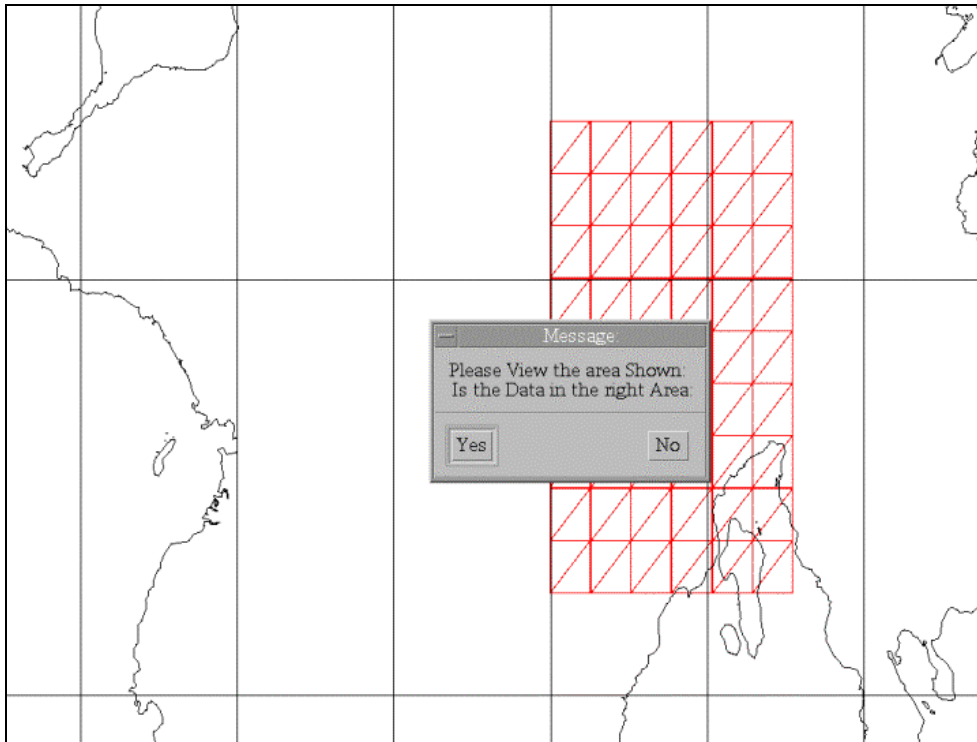
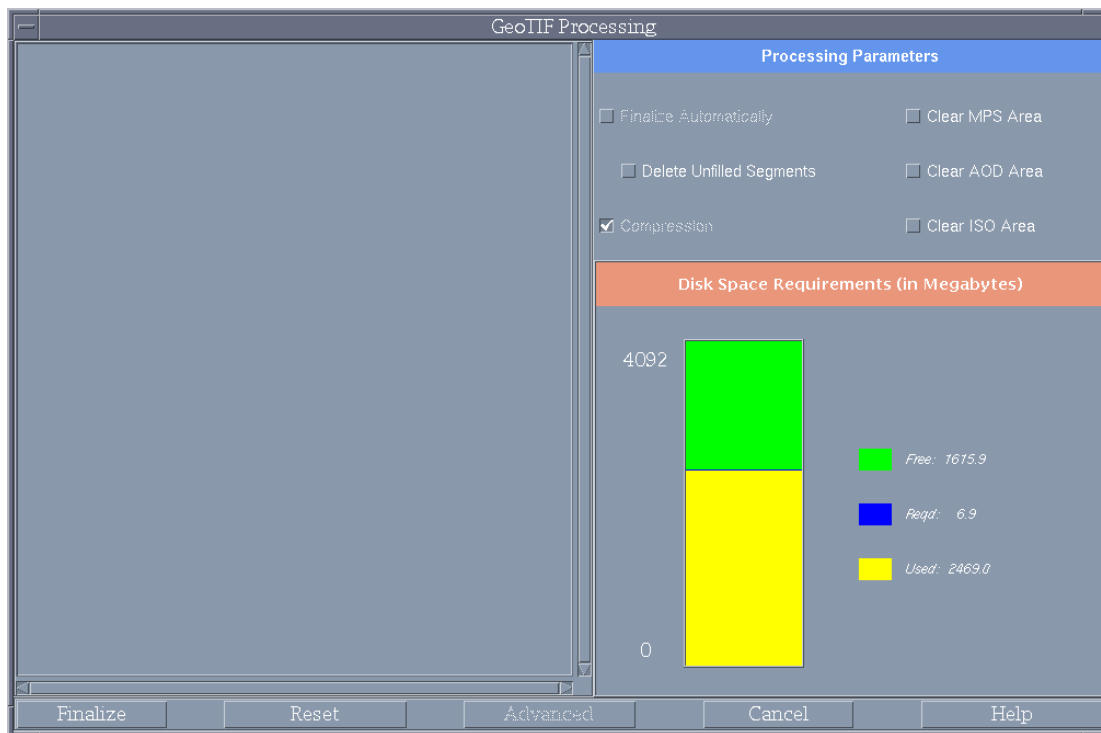

Fig. 43 – Area of coverage verification dialog
Fig. 44 – GeoTIF Processing Window with Finalize button
To accept the settings you have chosen, click *Accept* and processing will continue. MMC will display a template representation of the data zoomed into the area of coverage, with an overlay of a latitude and longitude reference grid. MMC will also display a message asking if the coverage is in the right area (Fig. 43). That is, is it in the right location and of the right size and shape? The user may have to move this message to the side if it obscures the template. If the template does not look right, click *No* to the message and determine the cause of the discrepancy. If the data look correct, click *Yes* and a *Processing* meter appears.
At this point, if you selected to finalize the data automatically, MMC will return to the main **MMC Window**. If you unchecked the finalize option, you will now see another dialog that will ask if you wish to finalize now or continue processing data. Click Finalize [scale] to finalize the data. The [scale] shown depends on what data you just processed. MMC will again display a template representation of the data zoomed into the area of coverage, with an overlay of a latitude and longitude reference grid. The dialog “Is the data in the right area?” appears (Fig. 43). If the data look correct, click Yes to continue.
The **GeoTIF Processing Window** again appears; however, the options are slightly different (Fig. 44). The previous Accept button now reads Finalize and the advanced options are disabled. To finalize the data, click the Finalize button at the bottom left corner of the window. Wait for the *Compressing Data* meter to finish before attempting another task in MMC. This should not take as long as the previous *Processing* meter.
MMC will display a template representation of the data zoomed into the area of coverage, with an overlay of a latitude and longitude reference grid. MMC will also display a message asking if the coverage is in the right area (Fig. 43). That is, is it in the right location and of the right size and shape? If the template does not look right, click No to the message and determine the cause of the discrepancy. Otherwise, click Yes and MMC will invoke the **GeoTIF Processing Window** (Fig. 44). Click Finalize in the bottom left corner of the window to finalize the data. MMC will display a compression meter showing the percent complete. **Wait until compression has finished before attempting another task in MMC!**
- c) A bitmap of the map segments to be processed from this geotiff data is displayed (Fig. 43). Verify the approximate geographic extents of the map coverage shown and if correct, click Yes.